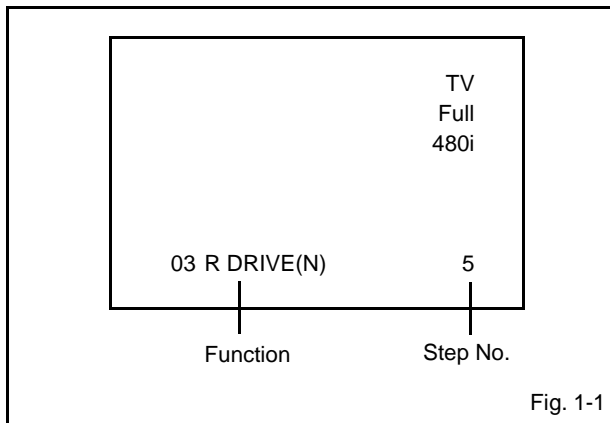

Fig. 1-1
2. Press the VOL. DOWN button on the set and the channel button (**9**) on the remote control for more than 2 seconds to display adjustment mode on the screen as shown in **Fig. 1-1**.
5. Activate the adjustment mode display of **Fig. 1-1** and press the channel button (**03**) on the remote control to select "R DRIVE(N)".
7. Adjust the VOL.UP/DOWN button on the remote control to whiten the R DRIVE(N), R CUTOFF(N), B DRIVE(N), B CUTOFF(N), R DRIVE(C), R CUTOFF(C), B DRIVE(C), B CUTOFF(C), R DRIVE(W), R CUTOFF(W), B DRIVE(W) and B CUTOFF(W) at each step tone sections equally.
4. Activate the adjustment mode display of **Fig. 1-1** and press the channel button **(32)** on the remote control to select "BRIGHTNESS CENT".
10. Activate the adjustment mode display of **Fig. 1-1** and press the channel button **(32)** on the remote control to select "BRIGHTNESS CENT".
19. Activate the adjustment mode display of **Fig. 1-1** and press the channel button **(32)** on the remote control to select "BRIGHTNESS CENT".
25. Activate the adjustment mode display of **Fig. 1-1** and press the channel button **(32)** on the remote control to select "BRIGHTNESS CENT".
4. Activate the adjustment mode display of **Fig. 1-1** and press the channel button **(51)** on the remote control to select "CONTRAST MAX".
10. Activate the adjustment mode display of **Fig. 1-1** and press the channel button **(51)** on the remote control to select "CONTRAST MAX".
19. Activate the adjustment mode display of **Fig. 1-1** and press the channel button **(51)** on the remote control to select "CONTRAST MAX".
25. Activate the adjustment mode display of **Fig. 1-1** and press the channel button **(51)** on the remote control to select "CONTRAST MAX".